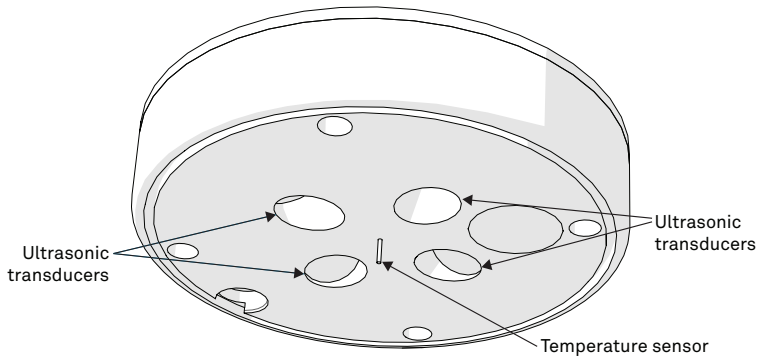

Figure 13 Temperature needle and ultrasonic transducers
- **DO NOT** touch the temperature sensor needle (Figure 13).
- Avoid more than light pressure on the sonic transducers (Figure 13).
2. Make sure nothing is obscuring the temperature sensor or the sonic transducers shown in Figure 13 (cobwebs, leaves, wasp nests, etc.).
- c. Ultrasonic transducer openings (Figure 13)
NOTE: Do not allow water to enter the ultrasonic sensors (Figure 13). Water may corrode the metal parts inside the sensors and ruin them. Do not touch the temperature sensor when cleaning because it is very delicate and can be damaged if pushed into the ATMOS 41 body.